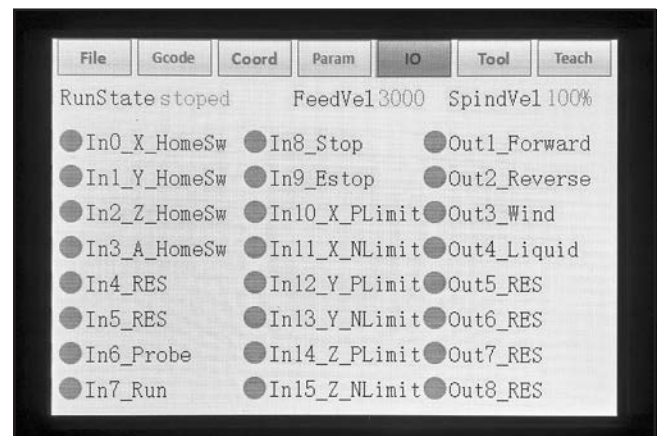

Figure 81. Example of IO screen.
3. Use menu navigation keys to navigate to IO screen (see **Figure 81**).